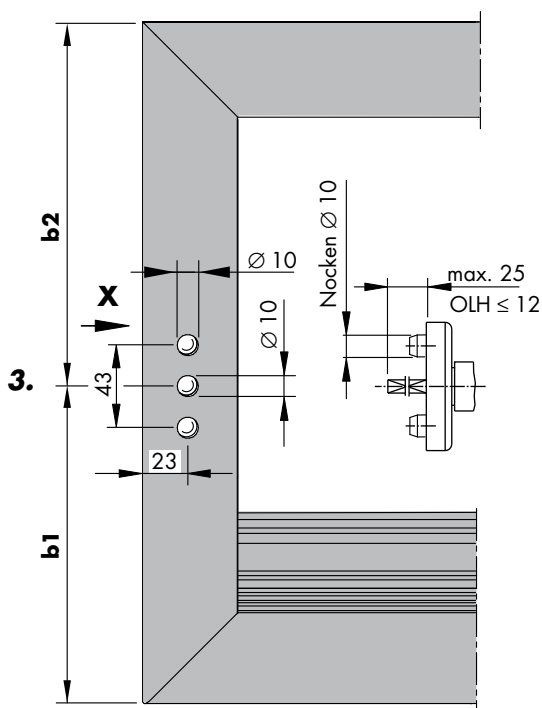

Figure 1
1. Carry out profile machining for window handle (pos. **1b**) (figure 1+2).